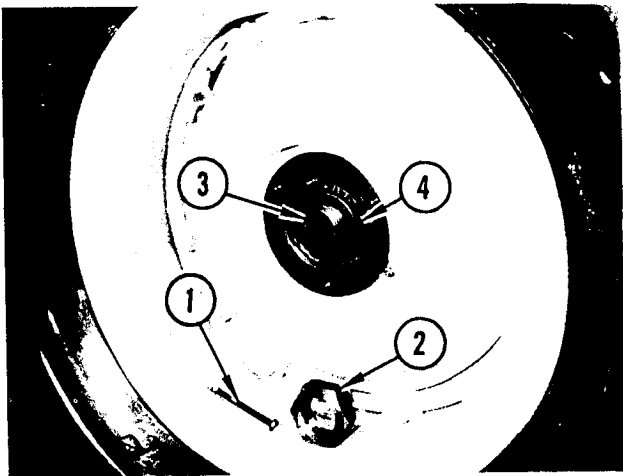

FIGURE 1. WHEEL NUT REMOVAL
Refer to Figure 1. Remove capscrew and nut (1). Remove drilled nut (2) from spindle (3). Remove outer bearing cone (4).